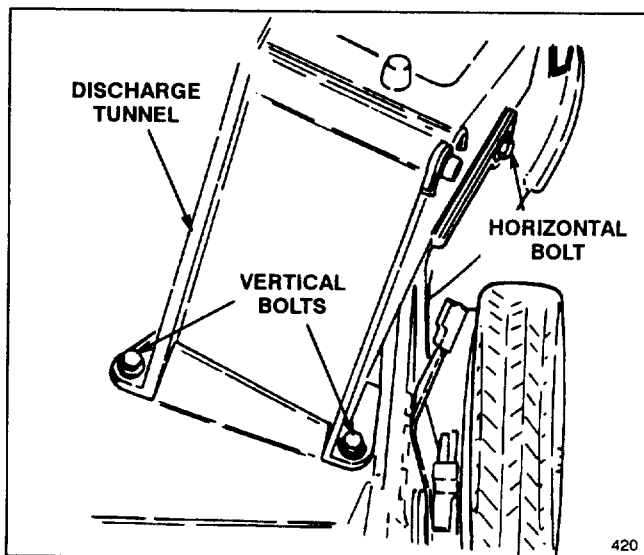

Figure 2
3. Position discharge tunnel and door assembly on deck. Align holes in discharge tunnel with holes in deck (Fig. 2).